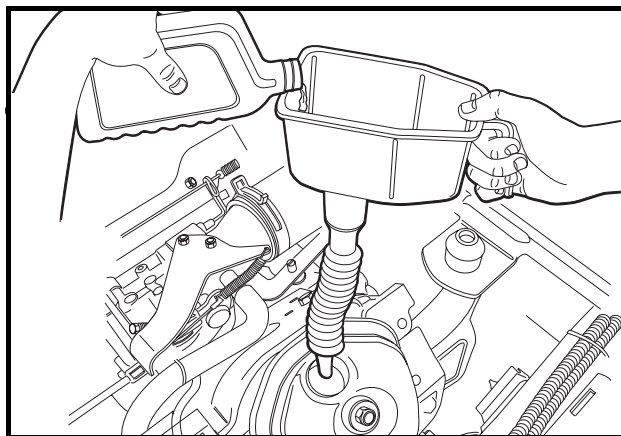
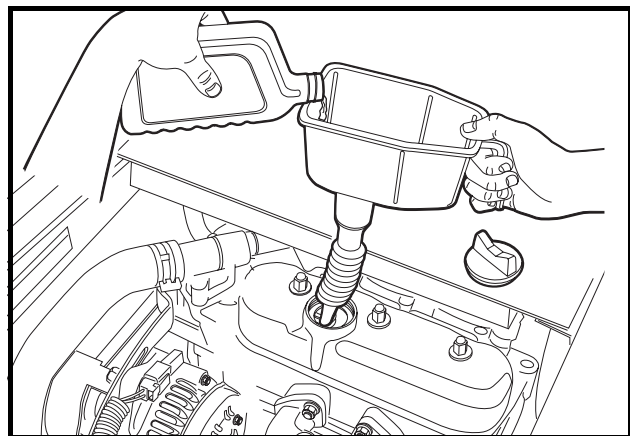
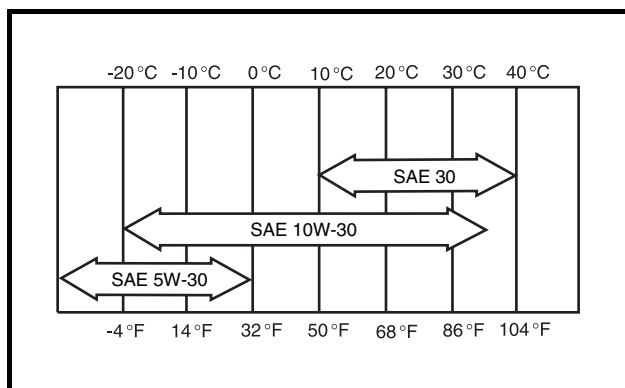
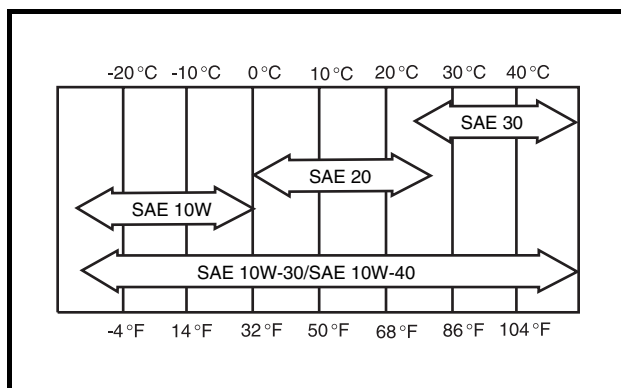

Figure 26 Add Engine Oil – Gasoline Vehicles
Figure 27 Add Engine Oil – Diesel Vehicles
Figure 28 Oil Viscosity Chart – Gasoline Vehicles
Figure 29 Oil Viscosity Chart – Diesel Vehicles
1. Add engine oil; use a funnel or pour spout to direct the oil into the opening (**Figure 26 or Figure 27**). With filter change, the engine requires 1 qt.-25 oz. (1.7 L) of oil per change for gasoline vehicles and 3 qt. (2.8 L) for diesel vehicles. Refer to oil viscosity guidelines for selection of oil grade (**Figure 28 or Figure 29**). See following **CAUTION**.
Choose the viscosity according to the temperature as shown in the appropriate oil viscosity chart (**Figure 28 or Figure 29**). See following **NOTE**.